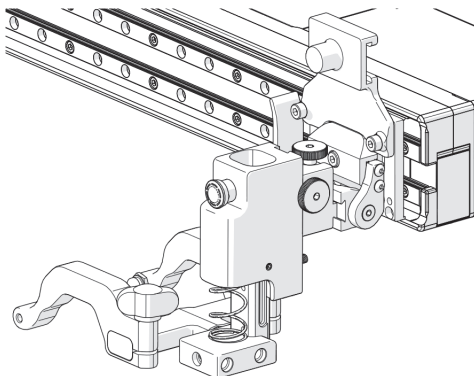

Figure 2-109 Lowered toward scan surface
2. Slowly lower the probe holder toward the scan surface (see Figure 2-109 on page 118).